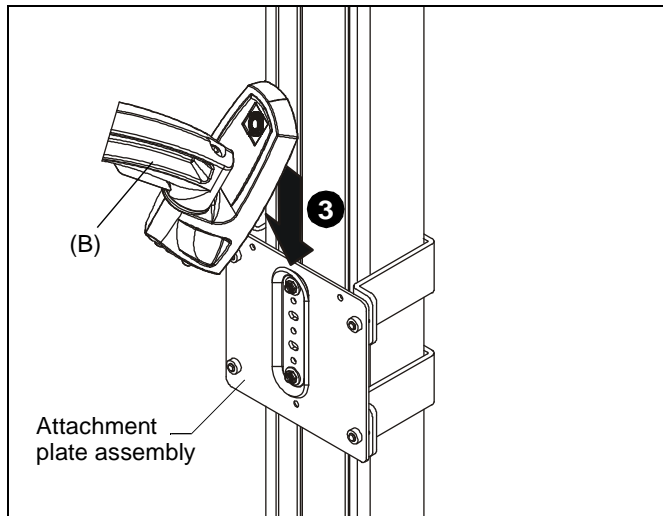

Figure 2
- Insert top of height-adjust assembly (B) over lip on top of attachment plate assembly. (See Figure 2)